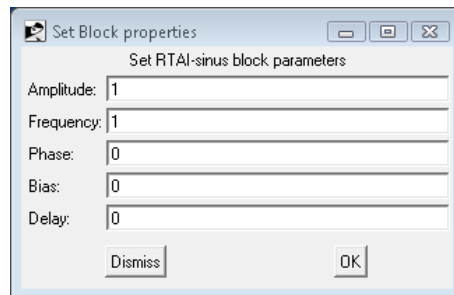

Figure 5.12: The `Sine` block properties.
- The `Sine` block output is a sinus with a frequency of 0.05, which correspond to a period of 20s (see Figure 5.12).